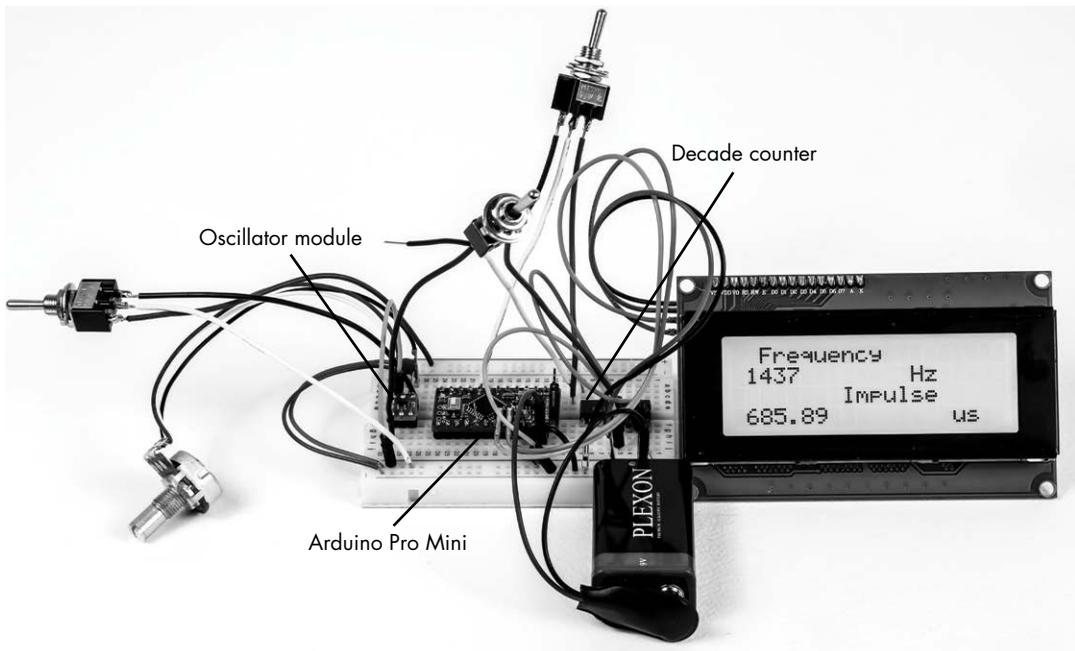

Figure 9-11: The breadboard for the Square-Wave Generator
As in virtually all of my Arduino projects, somewhere during the design process, I end up making a breadboard layout. Figure 9-11 shows the prototype for the Square-Wave Generator.
2. Insert the LTC1799 oscillator module as close as possible to one end of the breadboard. See the far left-hand side of Figure 9-11. The oscillator has to be mounted on an adapter board so it will fit in the 0.100 centers of the breadboard, as shown in Figure 9-12.
5. Insert the HCT4017 decade counter into the breadboard. (It's immediately to the left of the LCD in Figure 9-11.)